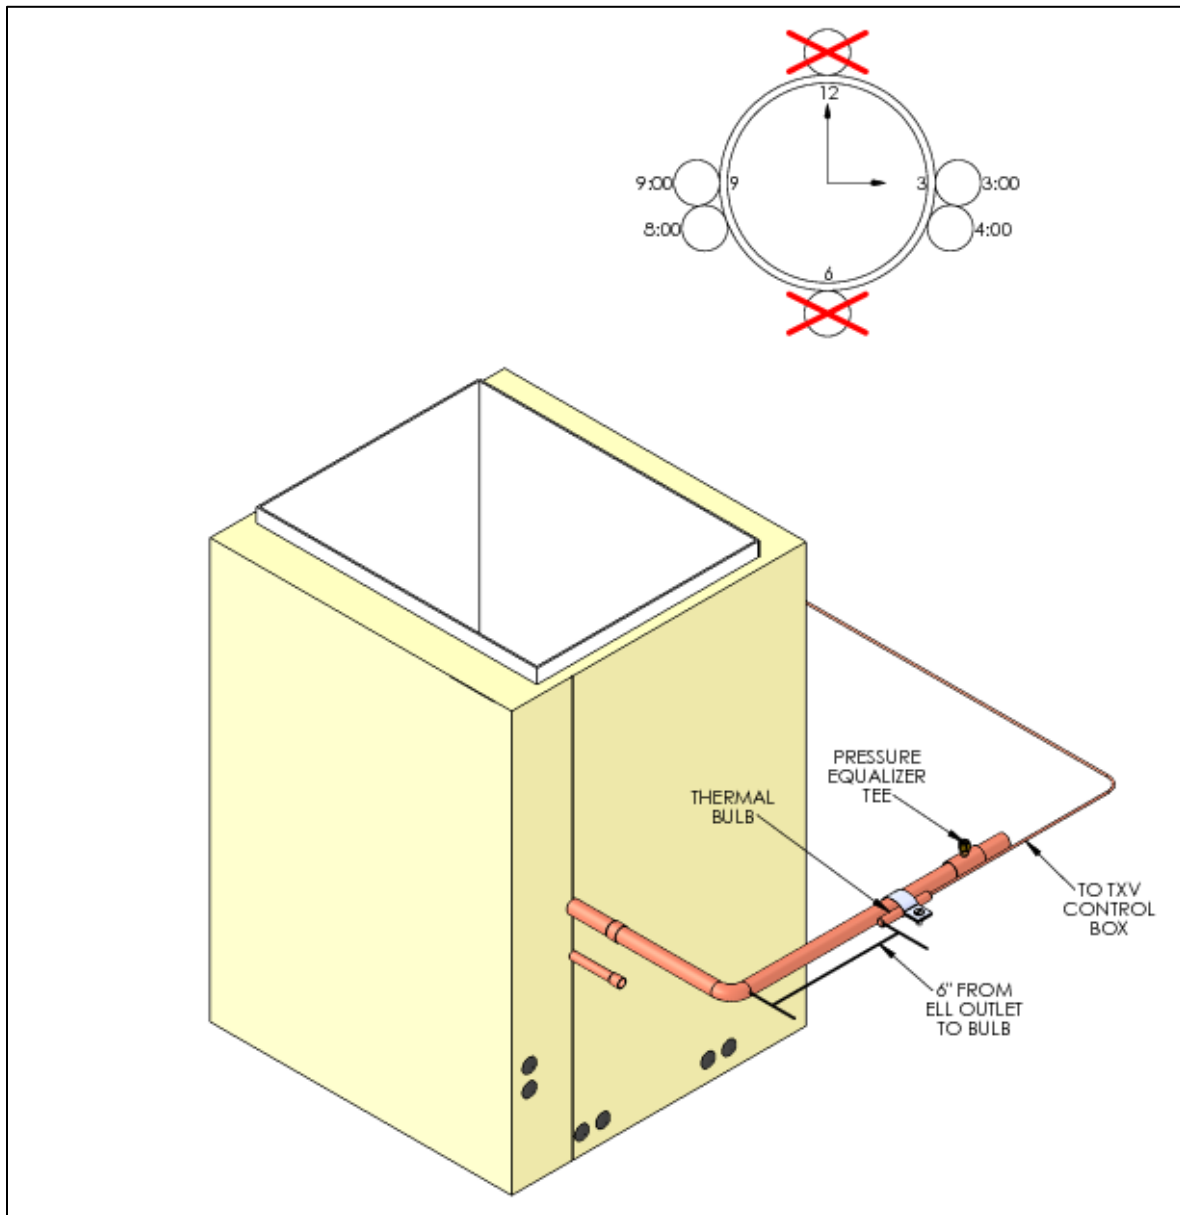

Figure 10. Thermal Bulb Positioning
Step 3: The **Thermal Bulb must be positioned and** clamped to the suction tube as shown in the example illustrated in Figure 10. The **Thermal Bulb and suction tube must be horizontal** regardless of the cased coil application (vertical or horizontal).
The Thermal Bulb must be positioned at the 3:00, 4:00, 8:00 or 9:00 positions on the suction tube, as illustrated in Figure 10.